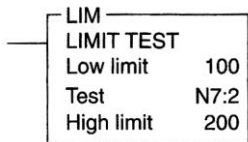

Figure 10-20 Instruction for question 32.
32. What value(s) stored in N7:2 of Figure 10-20 would make this instruction true? 32._____